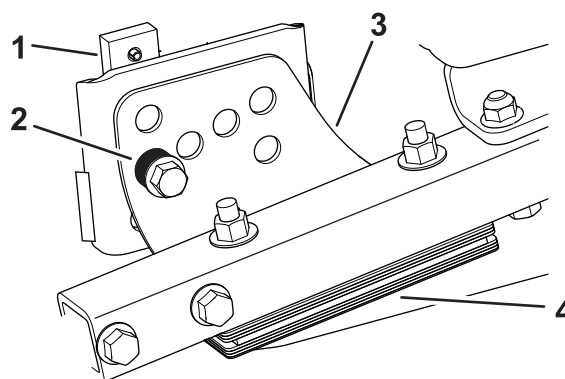

Figure 73
1. Remove the height-of-cut bracket (front, left, or right) from the deck frame (Figure 73).
2. Adjust 1.5 mm (0.060 inch) shims and/or 0.7 mm (0.030 inch) shim between the deck frame and bracket to achieve the desired height setting (Figure 73).